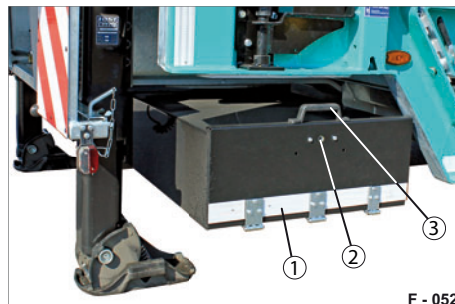

Fig. 112 Stowage box closed
- Unlock the lid (Fig. 112/1) with the key.
Hold the lid tightly by the handle (Fig. 112/3).
- Carefully fold the lid (Fig. 112/1) up. Make sure that the support chains do not get caught on the side of the lid/ stowage box.
- Hold the lid by the handle (Fig. 112/3) and lock the lid with the square-bolt socket wrench at the lock (Fig. 112/2). The stowage box is closed and secured.